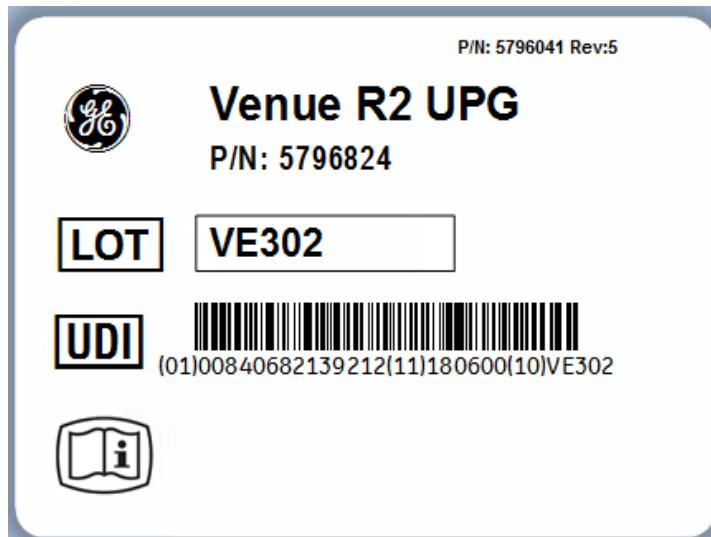

Figure 8-247 Example of UDI label attached to Software installation media Label
20.) In case the purchased upgrade kit was delivered as a physical media, scan the UDI label that is attached to the installation media. Refer to Figure 8-247 as reference only. always use the actual label.